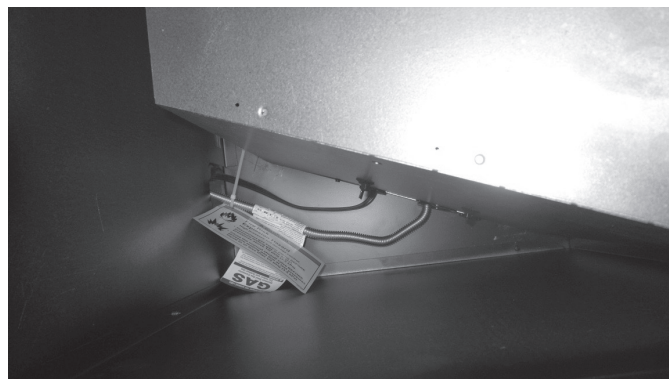

Figure 6.13
13. Feed the flexible gas line and power cord through the slot on the lower left hand side of the cabinet back. See Figure 6.13.